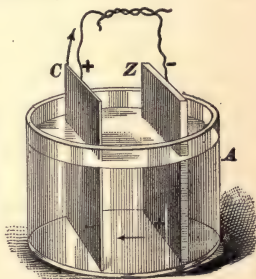

FIG. 2.
12. A **simple voltaic, or galvanic, cell**, Fig. 2, is an apparatus for developing a continuous current of electricity. It consists essentially of a vessel containing saline or acidulated water in which are submerged two plates of dissimilar metals, or one metal and a metalloid (as, for instance, carbon).